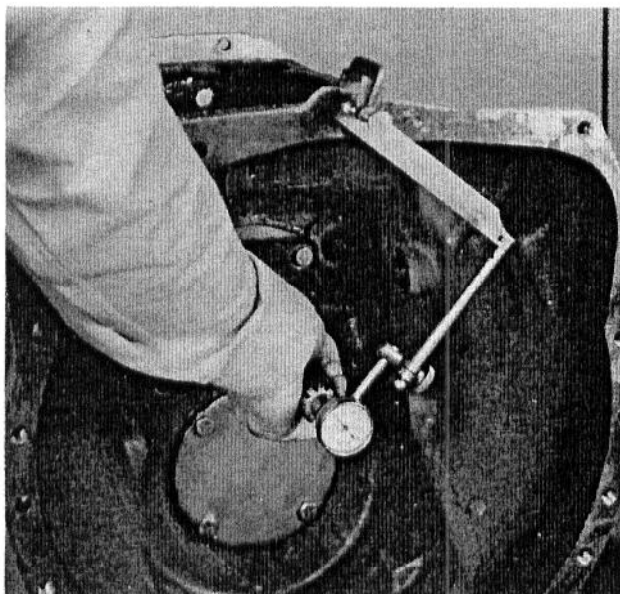

Fig. 23 - Checking Input Shaft End Play
- a. Attach a dial indicator to transmission housing and against the front end of the input shaft, as shown in Fig. 23.